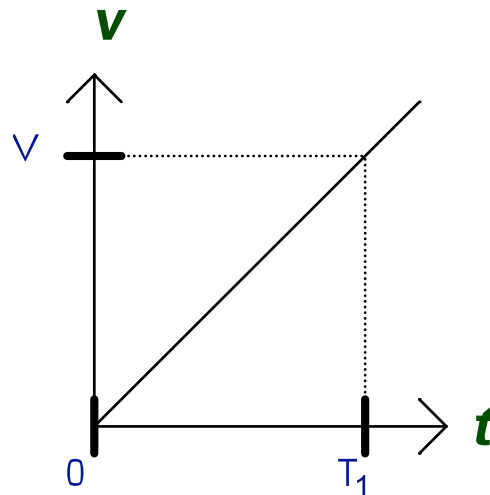

Figure 4. Sweep Voltage
- H. If we let the total time during which you are rotating the voltage control of the power supply be designated by T_1 seconds, the output voltage you are producing is shown graphically in Figure 4. This is the voltage applied to the horizontal plates. In effect, you have manually “swept” the beam horizontally across the screen with a constant velocity. The time T_1 is called the “sweep time,” and this voltage is the sweep voltage. The amount of time to go 1.0 div is called the “sweep rate.”